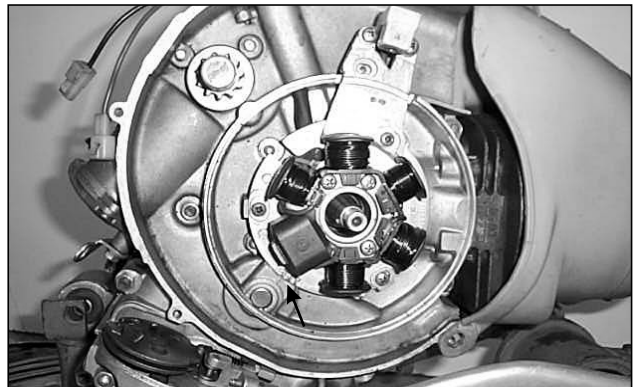

Fig.14 - Coinciding of Stator Plate & Crank Case marks
- (b) If the stator plate is removed for possible replacement then while re-assembling, it is important that the mark on the back plate is in line with the corresponding mark on the crank case (fig. 14).